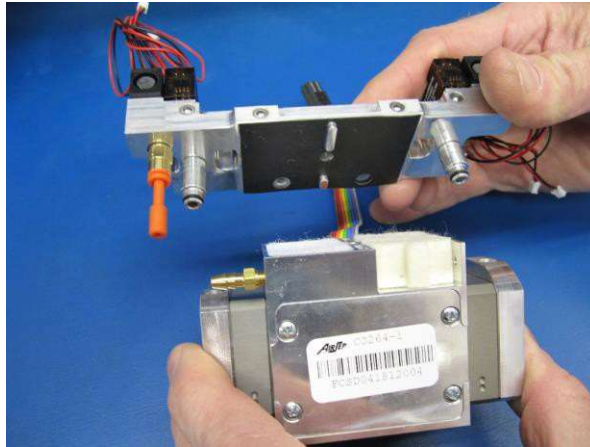

Figure 5.27
5. Remove feed/waste manifold by pulling upward on the manifold. Both fittings from the manifold to the compressor should still be connected to the manifold. If not, remove fitting(s) from the compressor. (Figure 5.27)